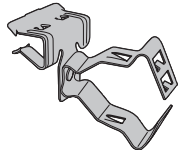

Fig. 2
- Fig. 2 supports 25 lb. static load limit